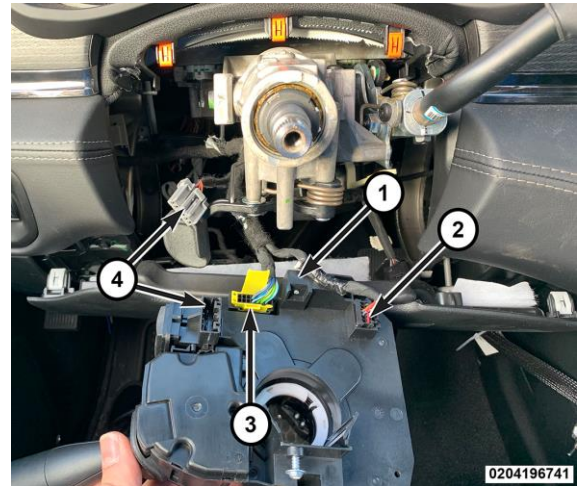

Figure 10 – SCCM
23. Pull the SCCM slightly away from the steering column and disconnect the pedal adjustment wire harness connector (4), if equipped (Figure 10).
25. Disengage the wire harness routing clip (1) (Figure 10).
26. Disconnect the wire harness connectors (2 and 3) (Figure 10).
1. Connect the wire harness connectors (2 and 3) (Figure 10).
2. Secure the wire harness routing clip (1) (Figure 10).